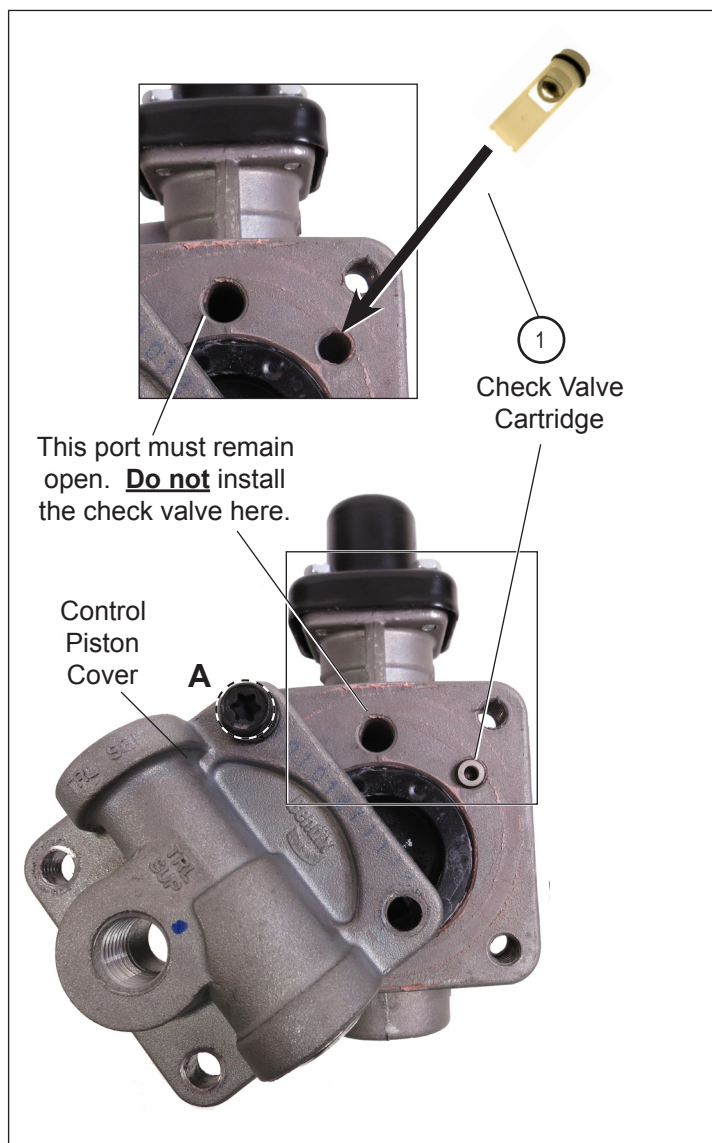

Figure 8 – Check Valve Cartridge Installation
1. Ensure that the check valve cartridge (1) is intact as shown in Figure 8.
2. Holding the larger diameter (o-ring end) of the check valve cartridge (1), insert the pointed end into the air passage. Push the check valve cartridge (1) in lightly with your finger until it is flush with the body housing. (Refer to Figure 8.)